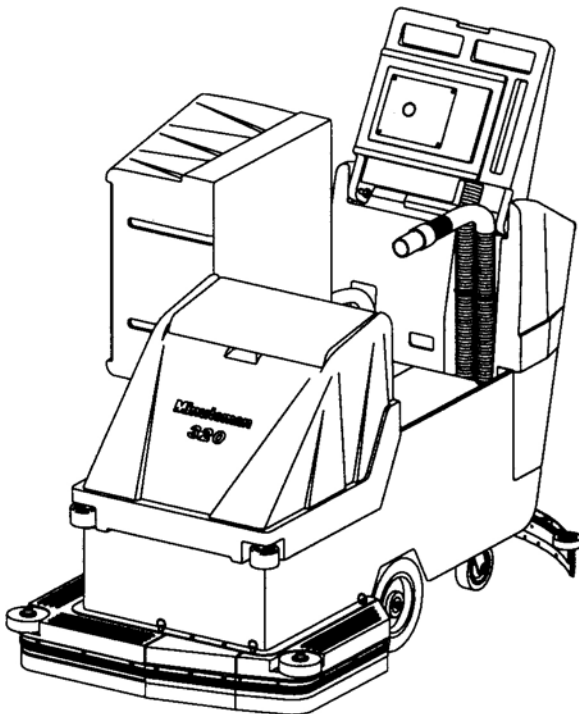

Figure 1
1. Raise tank assembly by raising rear cover and disconnecting vacuum recovery hose, Fig. 1.